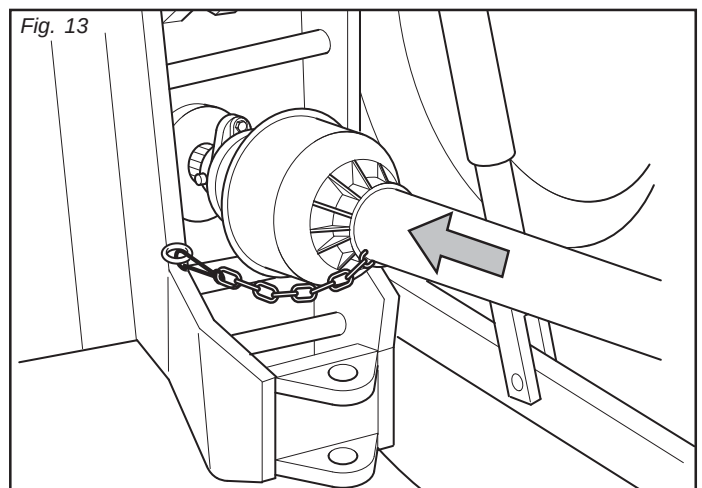

Fig. 13
- 4) Engage the cardan shaft and check that it is perfectly locked on the pto. Check that the guard is free to turn and fix it with the relative latch (Fig. 13).